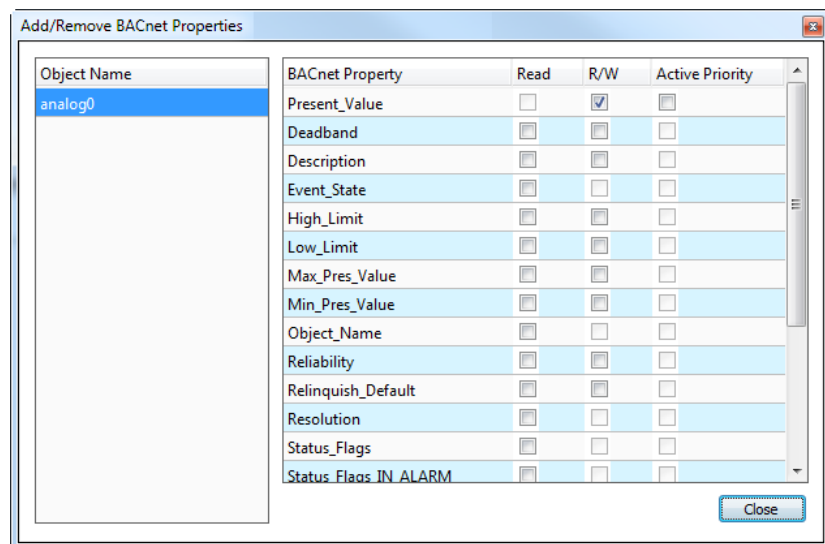

Figure 120: Dialog for adding/removing BACnet properties.
2. Right-click on the data point and select **Add/Remove BACnet properties ...** from the context menu. The dialog appears as shown in Figure 120.